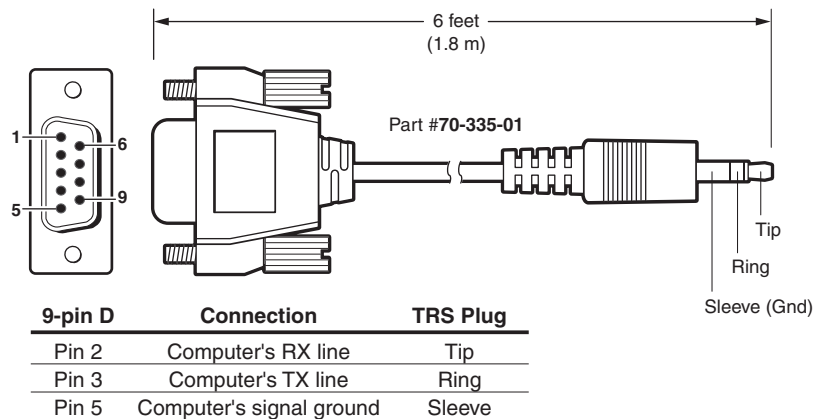

Figure 2-9 — Optional 9-pin TRS RS-232 cable
- ⑨ **Configuration port** — This 2.5 mm mini stereo jack serves the same serial communications function as the rear panel Remote port, but it is easier to access after the matrix switcher has been installed and cabled. The optional 9-pin D to 2.5 mm mini jack TRS RS-232 cable, part #70-335-01 (figure 2-9), can be used for this connection.